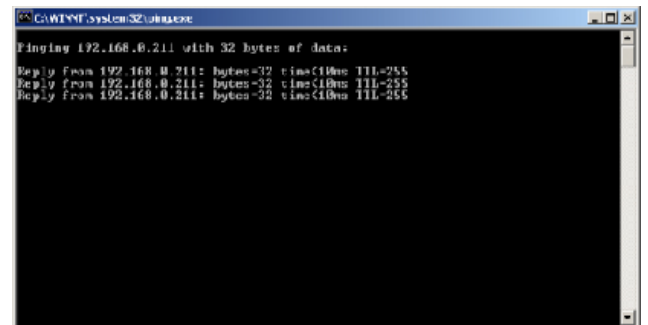

Figure 2-22
10. A DOS window will open running the Ping program. Reply responses should start displaying in the window. **Figure 2-22**